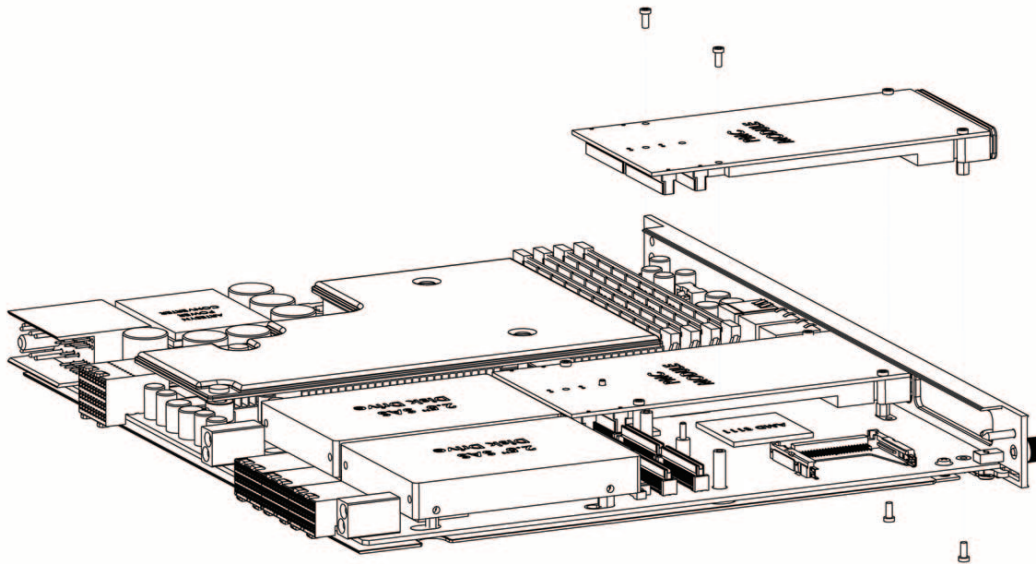

FIGURE 2-6 Installing Standoffs for the PMC Card
6. Install the standoffs on the Netra CP3020 board onto the PMC card by tightening them by hand and then tightening them a little more with a hex driver or set of pliers (FIGURE 2-6).